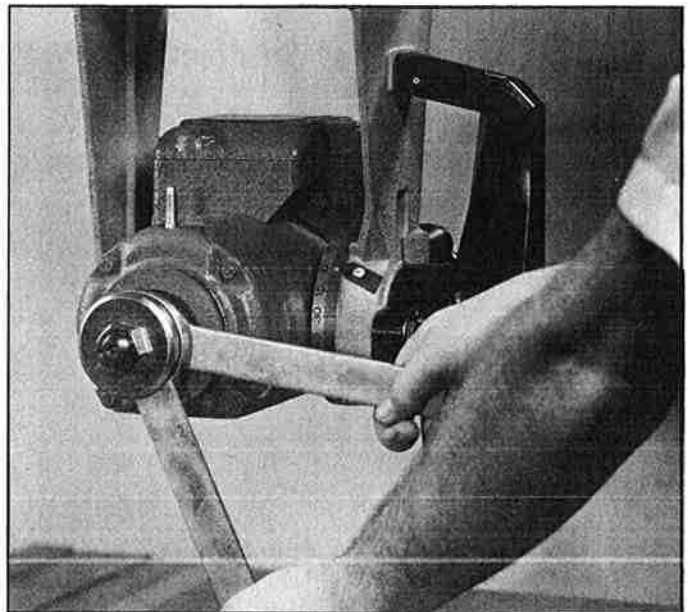

Fig. 10
1. Two wrenches are supplied with your radial saw. Lock the wrench with the large opening, between the two arbor collars, as shown in Fig. 10.